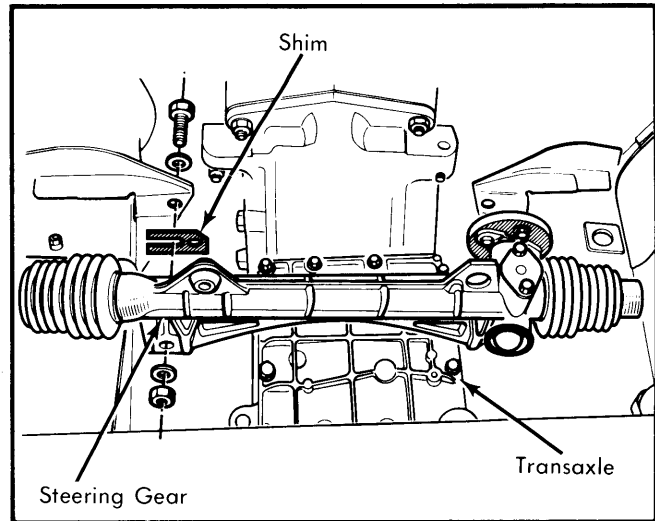

Fig. 2 Location of Adjustment Shim
4) Slotted shims are used to adjust steering gear. Position of slot in shim varies to move gear up and down. To replace or adjust shims, remove transaxle cover. Loosen steering gear bolts and remove adjusting shims. See Fig. 2.